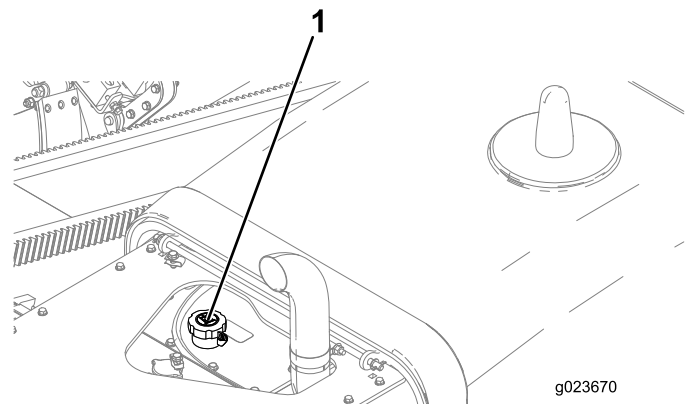

Figure 150
4. If the level is low, open the hydraulic-tank cap (Figure 150), and add the appropriate fluid until it reaches Full on the sight gauge.